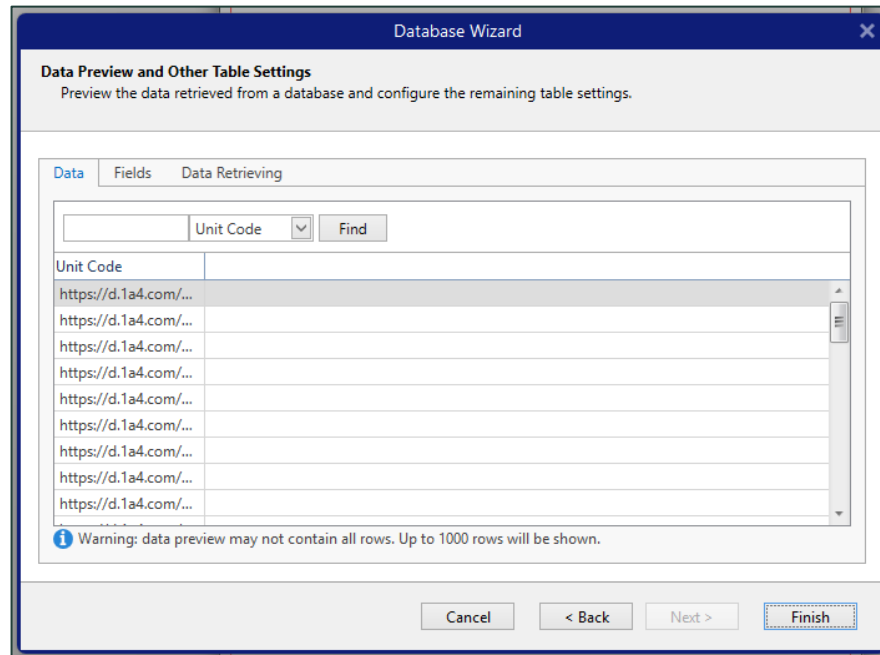

Figure 22: Unit Codes previewed in the Data tab of the Database Wizard
16. In the Data tab of the Database Wizard, you should see only the “Unit Code” field containing the unique URLs for your Retail ID QR codes. If so, click Finish—see figure 22.